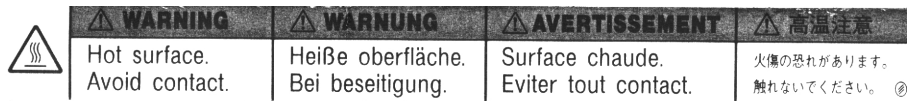

Fig. 5-16
5.3.2.2 Procedure of Replacement (see Fig. 5-11 through Fig. 5-16).
(see Fig. 5-16)